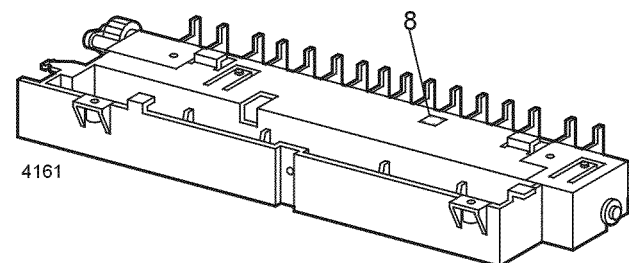

Figure 2 Preregistration Sensor
8. Release the four locking tabs and remove the sensor (Figure 2).